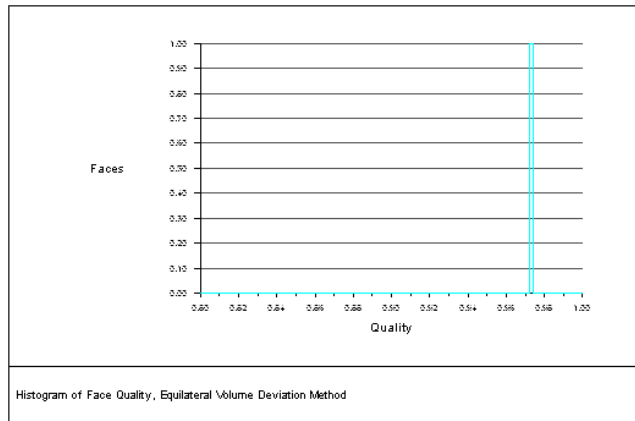

Figure 7.30: Face Skewness Distribution Between 0.8 and 1.0 (After Auto Post Improve)
- (h) Plot the face skewness distribution in the range 0.8 to 1.0 (Figure 7.30).
*In Figure 7.30, you can see that there is only one face above 0.8.*